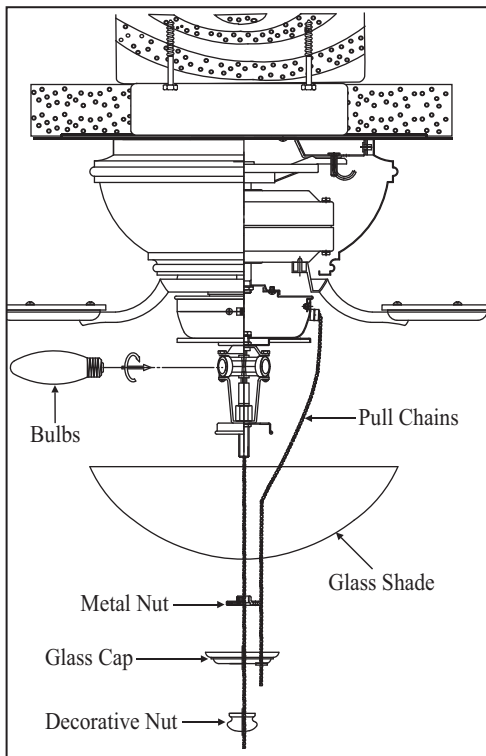

Figure 14
4. Install 3 x 40W candelabra bulbs (included). (Fig. 14)
5. Remove the metal nut from the light kit stem. Raise the glass shade up against the light kit, place the metal nut on the top over the stem and turn it clockwise until it locks up against the glass shade. Do not overtighten. (Fig. 14)
6. Raise the glass cap and decorative nut against the glass shade and secure them to the stem by turning the decorative nut clockwise until snug. Do not overtighten. (Fig. 14)